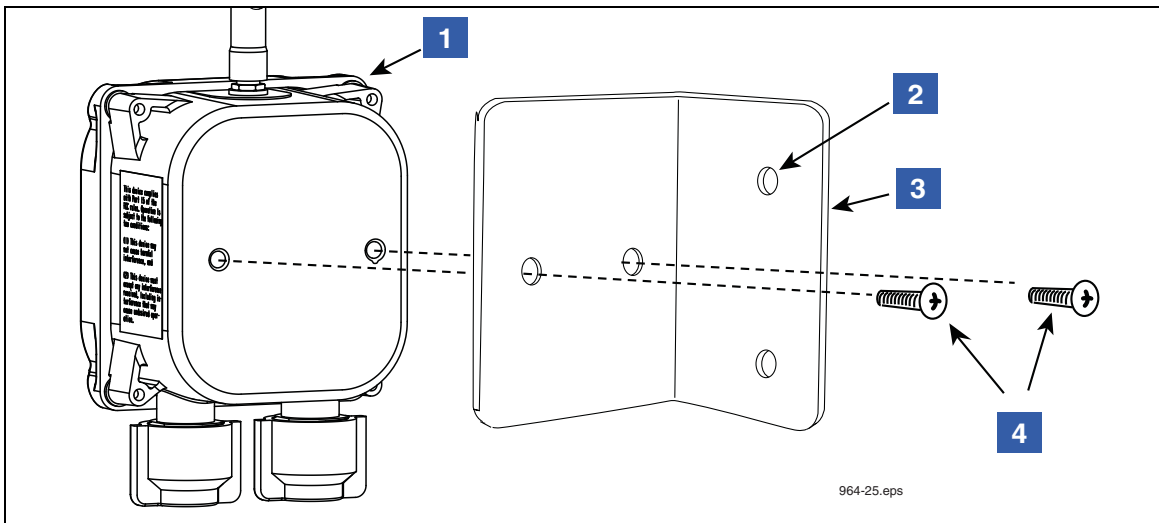

Figure 31. Attaching Mounting Bracket To Receiver Or Repeater
1. One Receiver is required per site and it is mounted in the vertical position (antenna up) on the outer wall of the same building housing the TLS RF. The Receiver is attached to its mounting bracket with #10 x 1/2" taptite screws from its install kit (see Figure 31). The L-bracket is then mounted on the outer wall of the building using appropriate fasteners (customer supplied). If the Receiver will be exposed to the weather, attach the L-bracket to the mounting surface inside a weatherproof enclosure. This enclosure is not required when mounting the Receiver under a roof overhang and shielded from the weather.
#### LEGEND FOR NUMBERED BOXES IN Figure 31
2. The Repeater is attached to its mounting bracket with #10 x 1/2" taptite screws from its install kit (ref. Figure 31 on page 41). The L-bracket is then attached to the outer wall of the building using appropriate fasteners (customer supplied). If the Repeater will be exposed to the weather, attach the L-bracket to the mounting surface inside a weatherproof enclosure. This enclosure is not required when mounting the Repeater under a roof overhang and shielded from the weather.